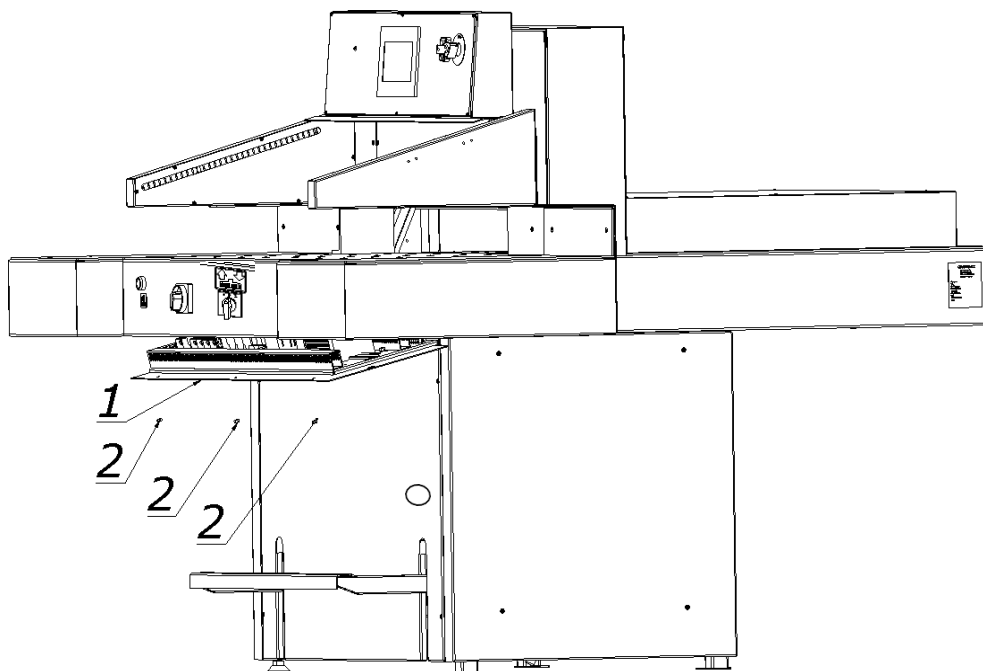

Figure 13. Location of electrical apparatus
1. Hinged housing of electrical apparatus (Fig. 13)
2. Nuts fixing the housing (Fig. 13)